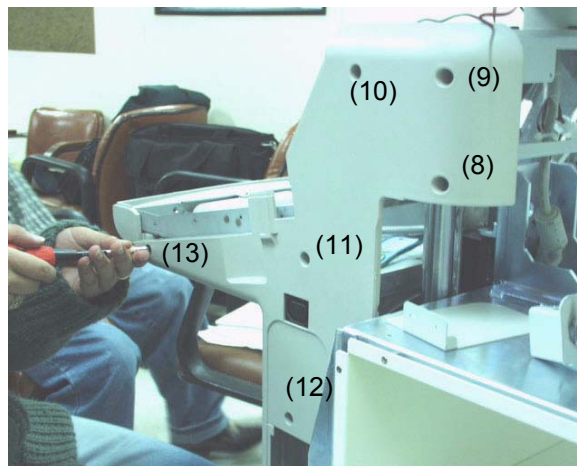

Figure 8-89 Removing the OP Side R Cover
8.) Unscrew six (6) screws (8-13) and remove the OP Side R Cover. Figure 8-89 on page 8-43 .